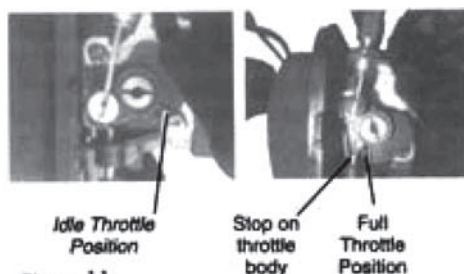

Figure 11
3. When 6mm free play is achieved, tighten the two 10mm throttle cable nuts. When the throttle cable is correctly adjusted, and the throttle trigger is fully depressed (full throttle), the throttle will contact the stop on the throttle body. See Figure 11.